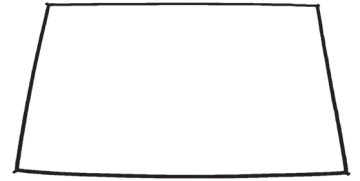

Fig.1
1. Spread the Nylon Base out on the ground in the shape of a rectangle. Make sure that the base lays flat and that the sides are not twisted. (Fig.1)